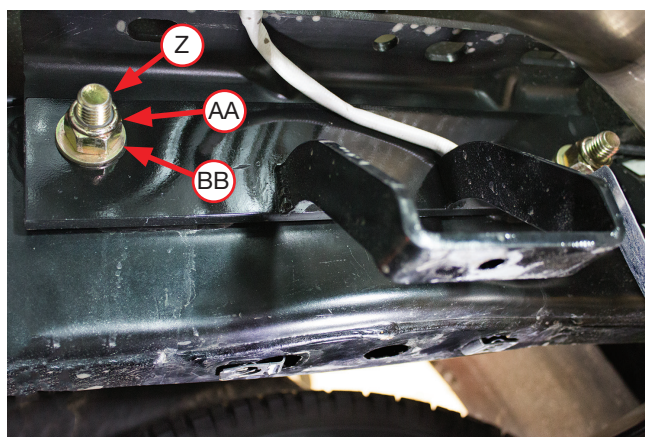

Fig. 27
6. Remove the factory fifth wheel hitch hardware (if equipped), from the holes in the side of the frame. Using the existing holes in the frame, attach the upper frame brace (F) to the frame using the factory hitch hardware removed or the 5/8" (Z, AA, BB) hardware supplied (Fig. 27). Leave loose at this time.